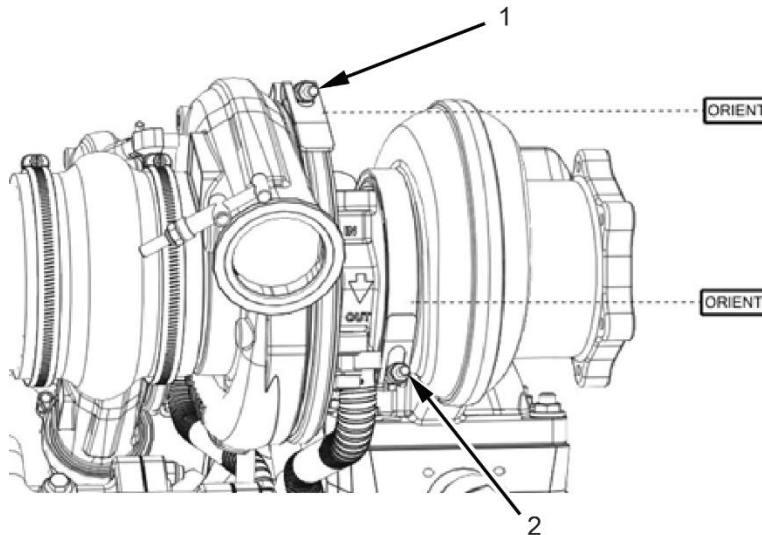

Figure 24. Compressor Housing Orientation
6. Orient both turbocharger compressor housings. (Refer to Figure 24.)